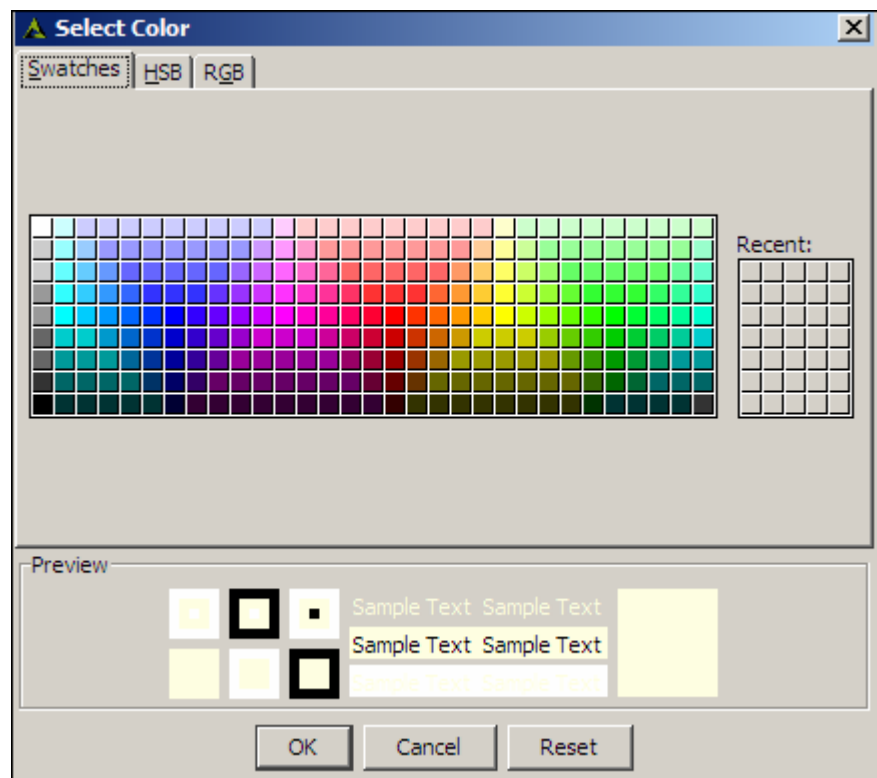

Figure 7.28: Select Color
2. The Select Color screen is displayed (see Figure 7.28).
2. This displays the Select Color screen (refer to Figure 7.28).